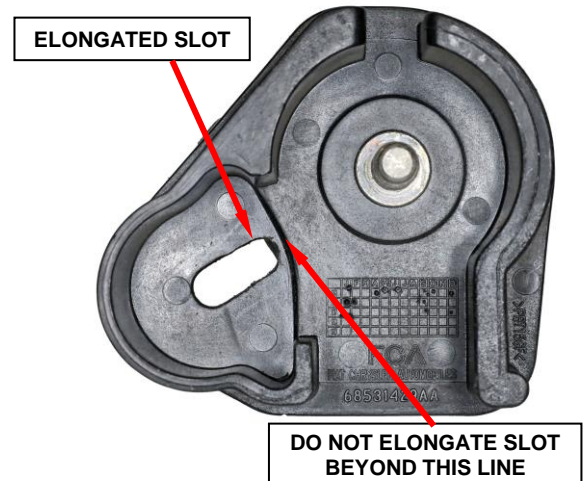

Figure 27 – Modify the Isolator
18. Modify the **NEW** isolator by elongating the slot that the weld stud passes through, and that the retainer nut attaches to (Figure 27).
NOTE: Do not elongate the slot beyond the molded line (Figure 27).